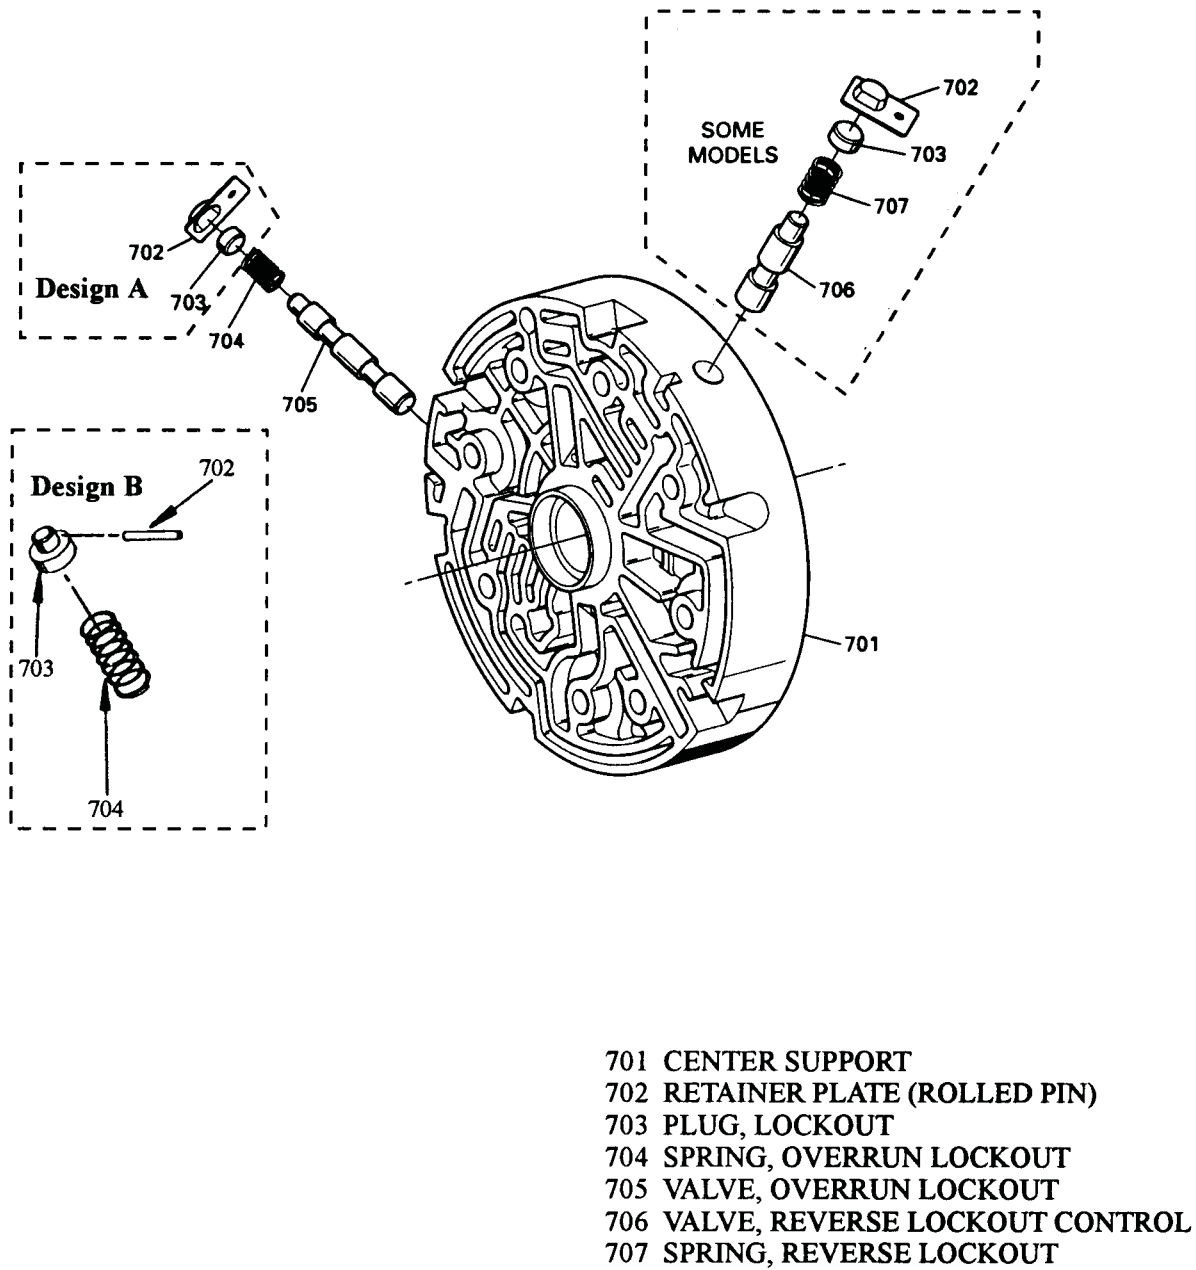

Figure 60
9. Install overrun lockout valve, spring, bore plug, and roll pin as shown in Figure 60.